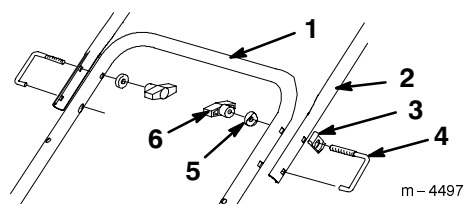

**Figure 5**
2. Install the control bar on the upper handle as shown in Figure 4 (models 38428 and 38429) or Figure 5 (models 38441 and 38442).